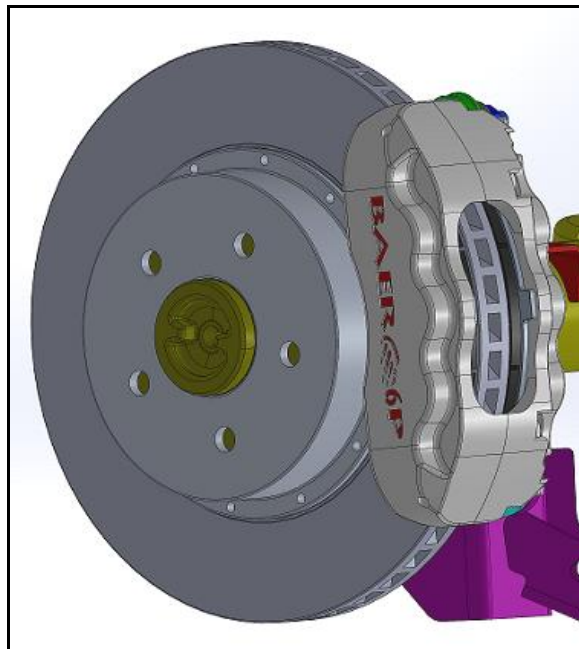

Figure 4: Rotor and caliper installed (outboard view)
4. Install the correct side rotor onto the axle and secure with two or three lug nuts and washers to prevent scratching the rotor hat. With the pads removed install the caliper (bleed screw pointing upward) using the supplied M12-1.75 x 45mm socket head bolts. Snug the bolts for now as shimming will require removal. See Figures 4 and 5 for reference.